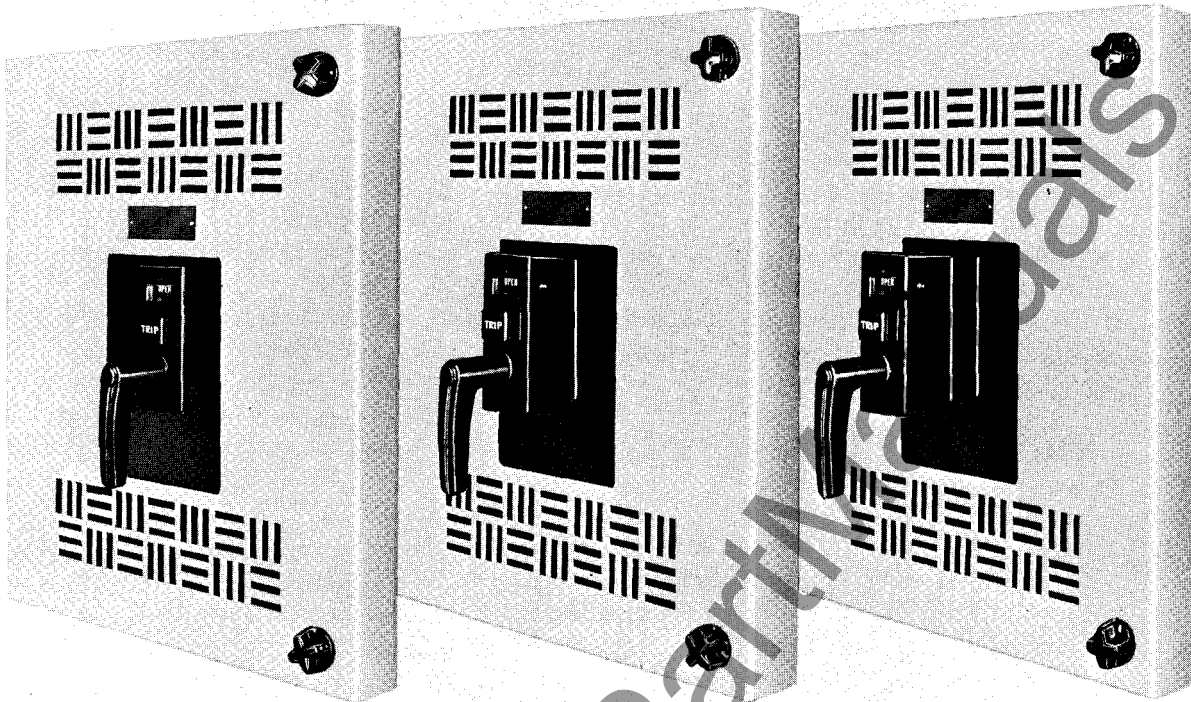

FIG. 1 - Type DB-25 Shown in all Three Positions. The Position of the Breaker in the Compartment is Indicated by the Light Colored Lines.
1. The circuit breaker compartment doors may be closed and latched with the circuit breaker in either the connected, test, or disconnected position. (Page 7 of I.B. 32-100-1 gives a complete description of connected, test and disconnected positions). The distance the circuit breaker operating mechanism extends through the opening in the compartment door (Fig. 1) provides a visual indication of which position the breaker is occupying.